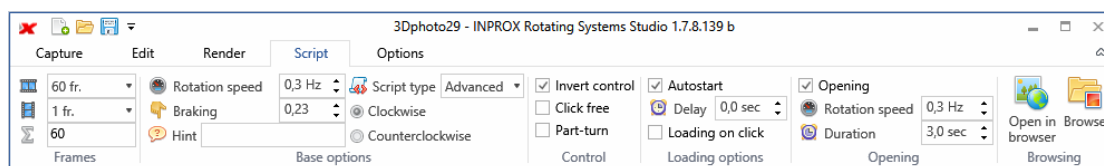

Figure 18.
1. Go to the “Script” section (Fig. 18)